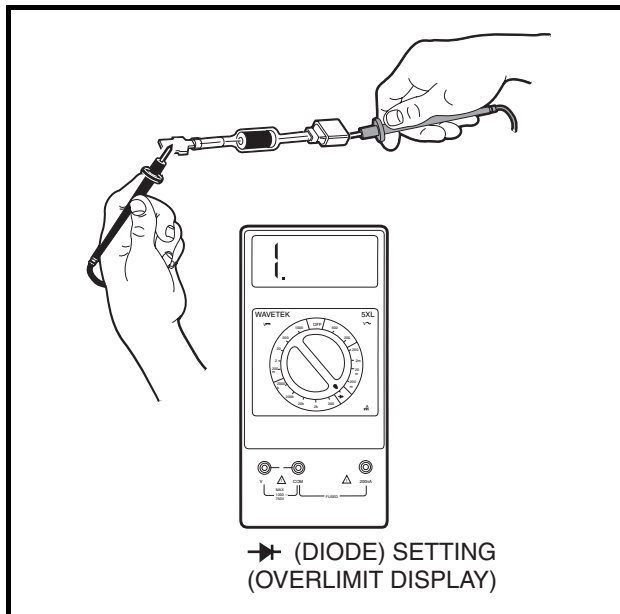

Figure 11-34 Blocking Diode Test
- 7.3. Set a multimeter to the diode test function (→|←). Place the black (–) probe of the multimeter on the terminal on the opposite side of the white band indicator on the diode (**Figure 11-34, Page 11-34**). Place the red (+) probe on the terminal on the same side of the diode as the white band. The multimeter should indicate an overlimit with no tone emitted. If any other reading is indicated by the multimeter, replace the blocking diode.